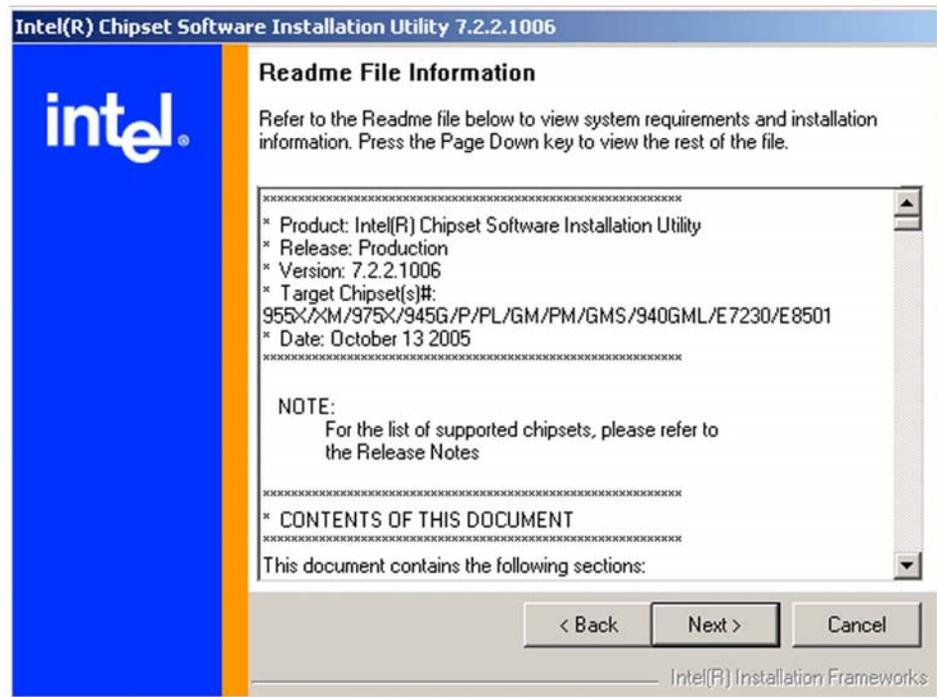

Figure 6-3: Chipset Driver Readme File Information
The Readme file information shown in **Figure 6-3** will appear.
- Step 5:** After reading through the Readme file information shown in **Figure 6-3** click on the "NEXT" button and the chipset driver will be installed.